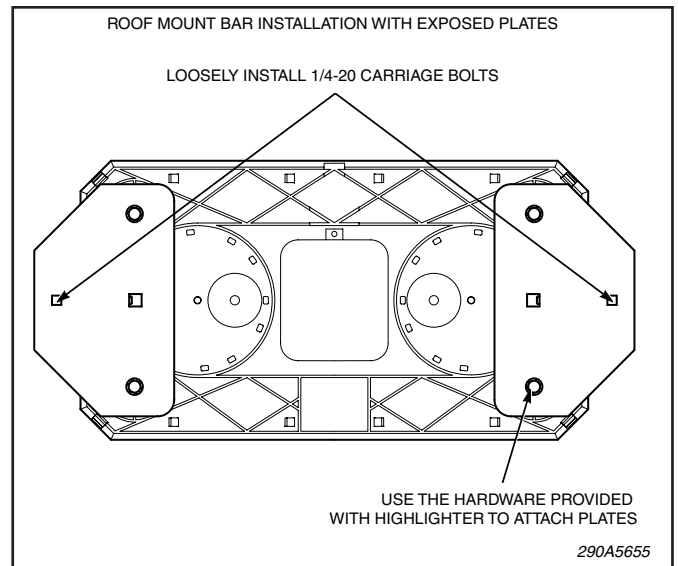

Figure 2.
a. Secure the brackets to the HighLighter as shown in figure 2 for the exposed brackets. Use the hardware provided with the HighLighter.